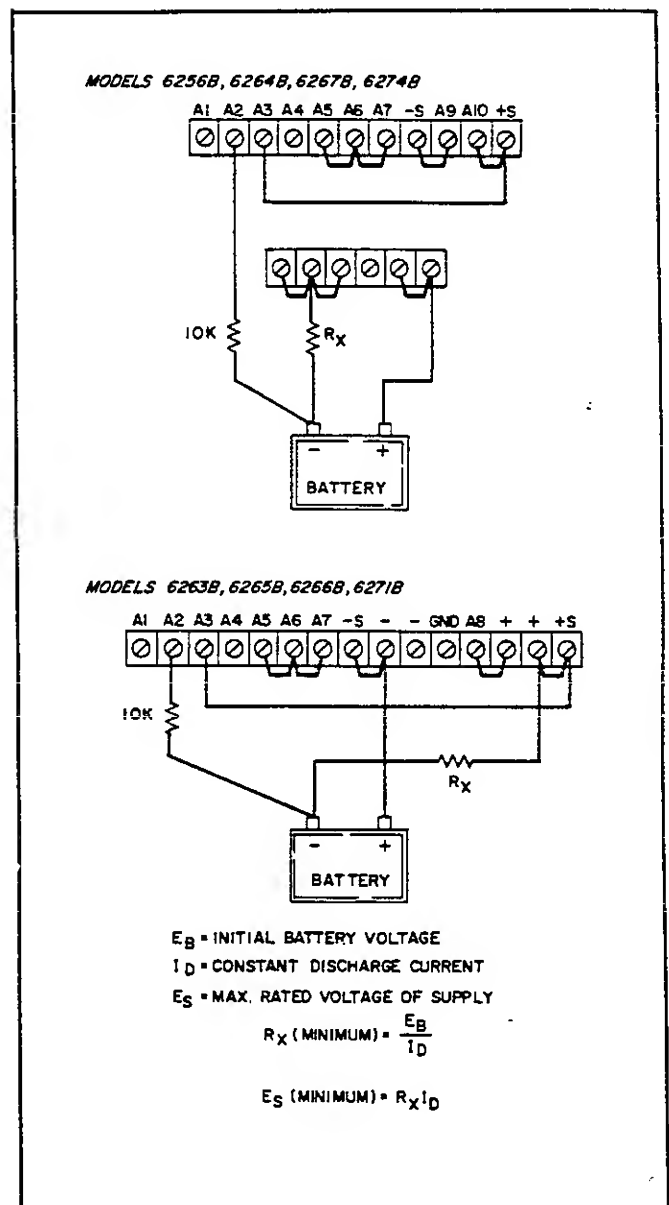

Figure 3-15. Battery Discharging
**3-84** These power supplies are also useful when batteries must be discharged at a constant current in order to test them. Connecting a supply as shown in Figure 3-15 and following the instructions below makes an unattended constant-current discharge possible by automatically shutting off the output of the supply when the battery voltage reaches zero.
**3-85** The supply operates in the constant-current mode, delivering the current set by the current control. This constant current flowing through dropping resistor  $R_X$  produces a constant voltage across the resistor. Initially, the battery voltage is high and the supply's output voltage is low, but as the battery voltage decreases during discharge, the supply voltage increases. When the battery voltage reaches zero, the supply senses this through the connection to its (A2) terminal and reduces the output current to zero. As shown in Figure 3-15,  $R_X$  must be selected so that its IR drop is less than the maximum rated output voltage of the supply, but greater than the initial battery voltage.
b. Connect terminal (A3) to (+S) and leave all other jumpers connected as for normal operation as shown in Figure 3-15.